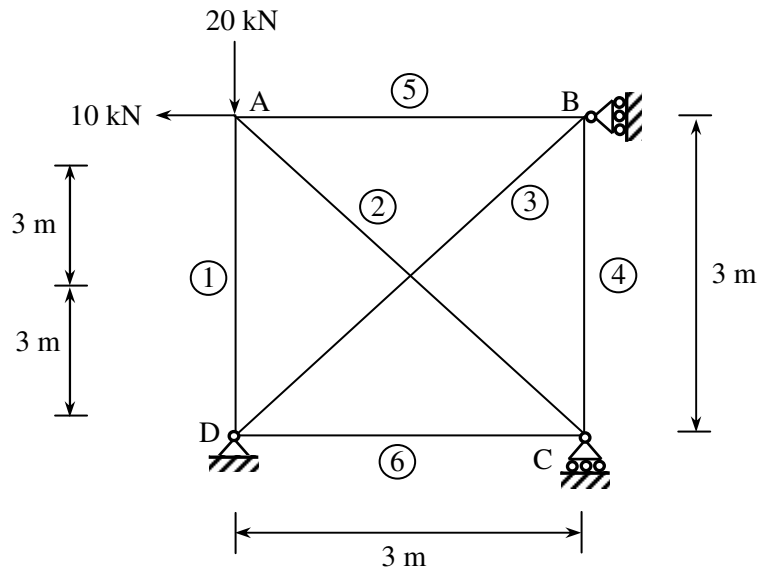

Figure 2
- Q.2** (a) Obtain assembled flexibility matrix for the whole truss shown in Figure 2. **06**
- (b) Calculate joint displacements, support reactions and member end-actions for the truss shown in Figure 2 using flexibility member approach. Tabulate the member forces. **06**